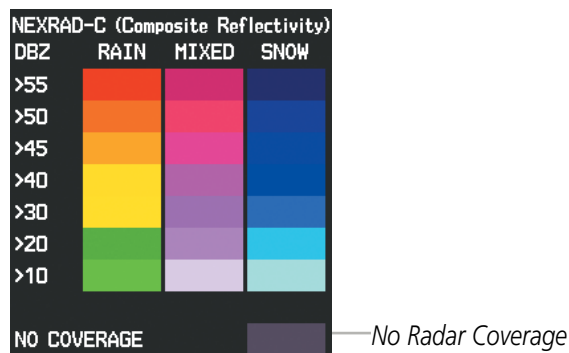

Figure 6-11 NEXRAD Composite Reflectivity Legend
- 1) Press the **MAP** Softkey (for the PFD Inset Map, press the **INSET** Softkey). This step is not necessary on the Weather Data Link (XM) Page.
A mosaic of data from all the available NEXRAD radar sites is shown. This data is composed of the maximum reflectivity from the individual radar sweeps. The display of the information is color-coded to indicate the weather severity level. All weather product legends can be viewed on the Weather Data Link (XM) Page. For the NEXRAD legend (Figure 6-11), press the **LEGEND** Softkey when NEXRAD is selected for display.